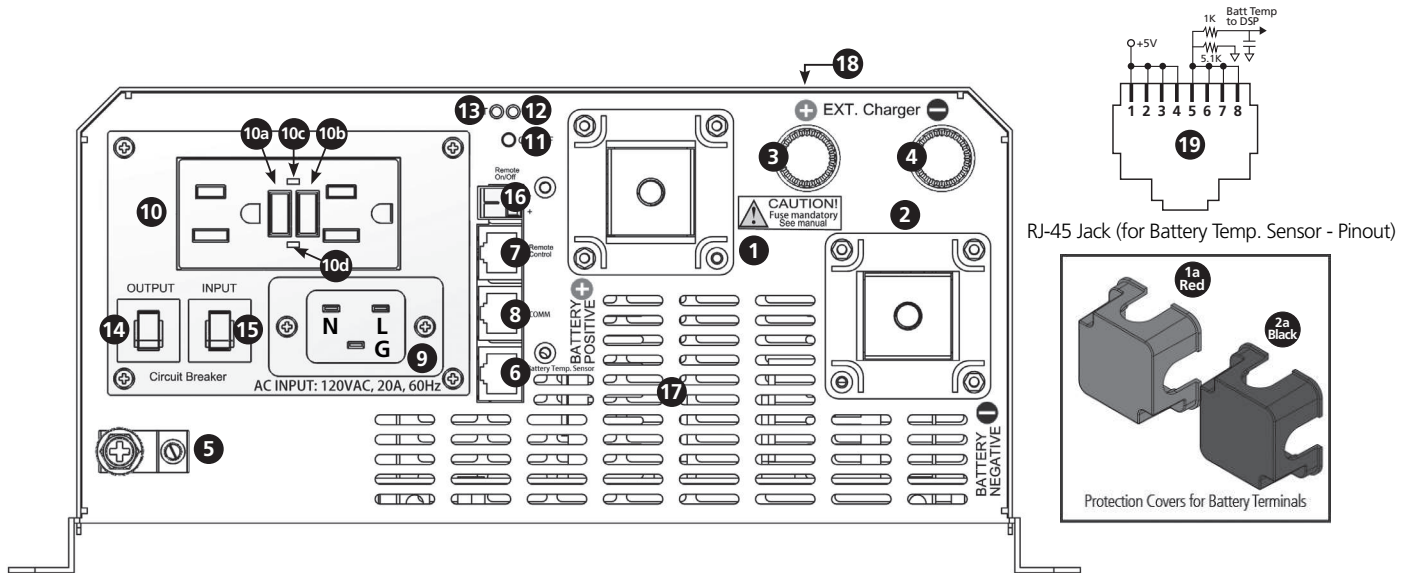

Fig 2.1 Layout of Front side EVO-1212F / EVO1224F
Legend for Fig 2.1
19. Pinout for RJ-45 Jack marked "Battery Temp. Sensor" (6, Fig 2.1)
- 1. RJ-45 Plug: Pins 1 to 4 → + NTC ; Pins 5 to 8 → – NTC (See pinout of mating RJ-45 Jack at 19, Fig 2.1)